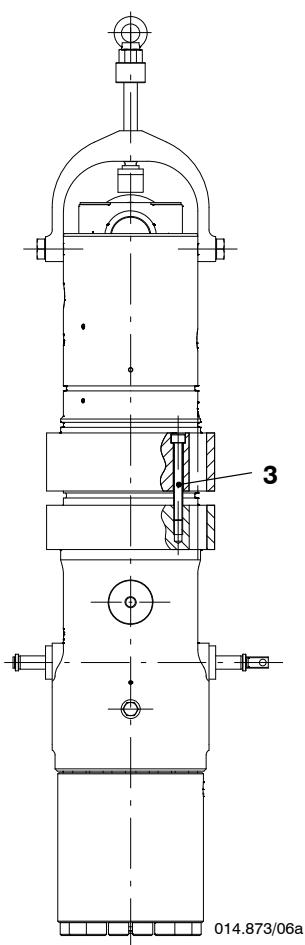

Fig. 7
- 1) Use the M16 eye bolt (1) and turn the spindle (2) back.
- 2) Loosen equally the two Allen screws (3, Fig. 7) and remove them.